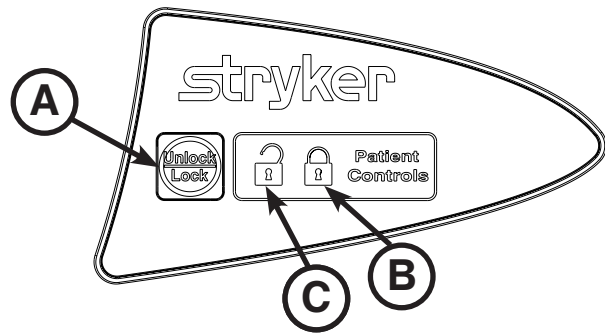

Figure 17: Patient Control Lockout
To lock the siderail patient controls, press the **Lock/Unlock (A)** button as shown in Figure 17. The lock icon (B) is illuminated amber while the patient controls are locked. The foot end nursing controls are not locked.
To unlock the siderail patient controls, press the **Lock/Unlock (A)** button as shown in Figure 17. The unlock icon (C) is illuminated green when the patient controls are unlocked.